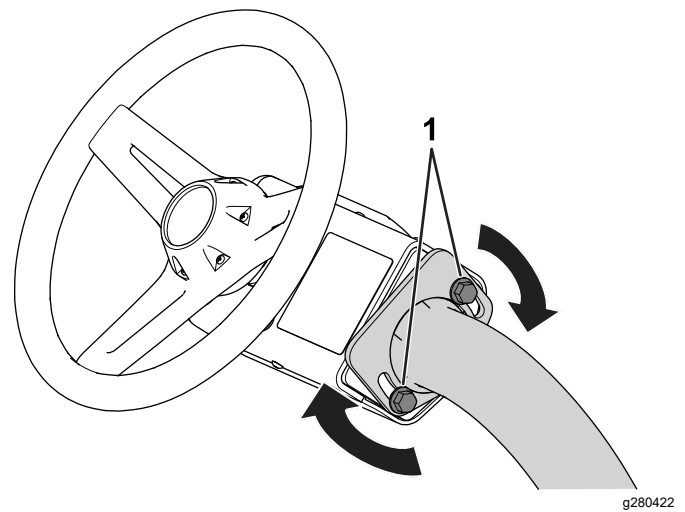

Figure 29
3. Tighten the bolts (Figure 29) to secure the steering-wheel assembly in your adjusted position.
1. Loosen the bolts (Figure 29) that secure the steering-wheel assembly to the steering arm.